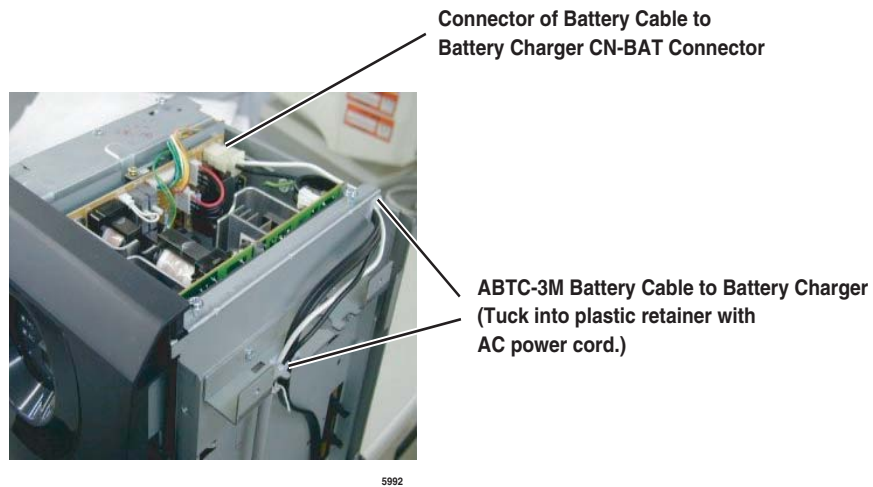

Figure 3-10 Cable Wiring for the Base and Expansion Cabinets (Top view)
4. Run the ABTC-3M battery cable from the batteries to the ABCS battery charger located in the CTX100 power supply. Dress the battery cable within the CTX100 cabinet(s) carefully (see Figures 3-10~3-13).